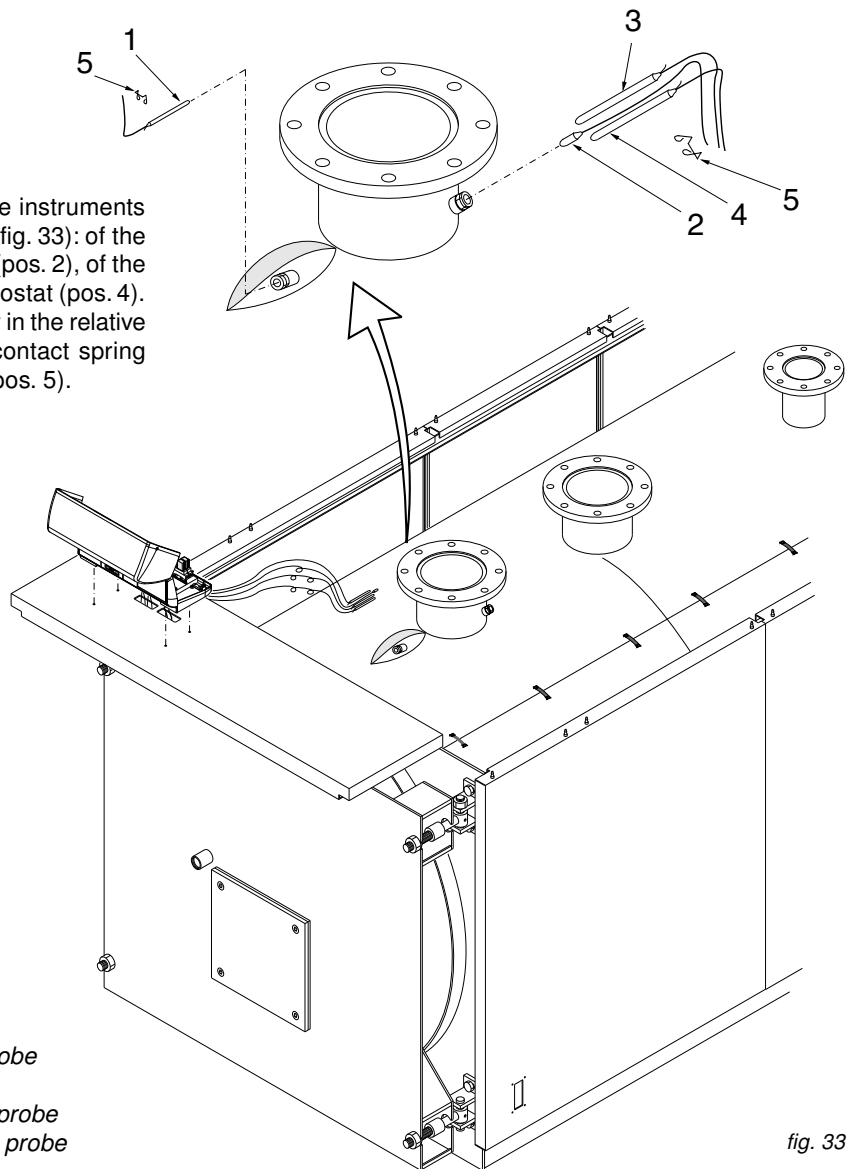

fig. 33
- G) Insert the bulbs of the instruments into the conduits as indicated in fig. 33 and wire the panel board to the power line, to the burner and to any pumps, etc.
Following this sequence, insert the probes of the instruments in the bulb holder/s on the top of the boiler (Ref. fig. 33): of the thermometer (pos.1), of the working thermostat (pos. 2), of the safety thermostat (pos. 3), of the minimum thermostat (pos. 4). It is recommended to insert the probes all the way in the relative bulb holders for best contact. Then insert the contact spring and fasten the capillaries with the fixing clip/s (pos. 5).